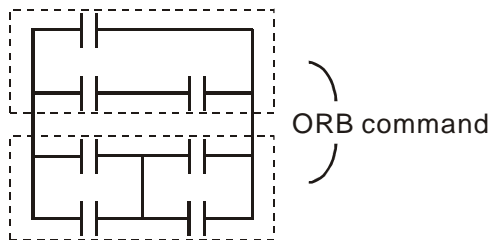

Figure 16-35
**ORB command:** a configuration in which one block is in parallel with one device or block. See Figure 16-35.